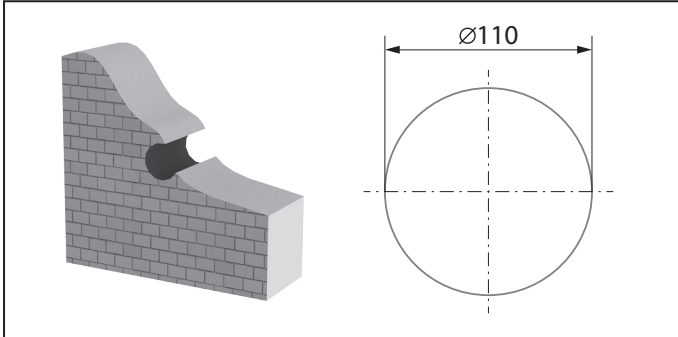

Fig. 7.
1. Prepare a round core hole through the outer wall. The size is shown in the figure 7.